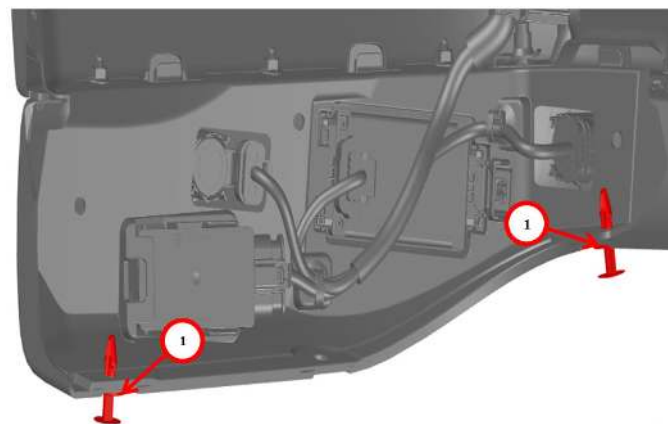

Fig. 9
10. Install two push pins Fig. 9.